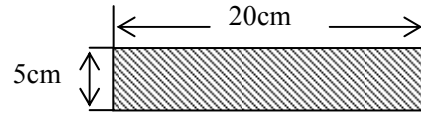

Figure 1: Releasing force test pattern
(1) Test specimen has a test pattern, such as figure 1
(2) Test process